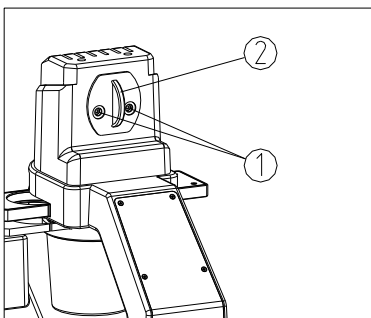

Fig. 10
(1) Screw out the screw① with hexagon spanner and pull out the light source group② from the microscope, replace the LED or the whole light source group②. (See Fig.10)